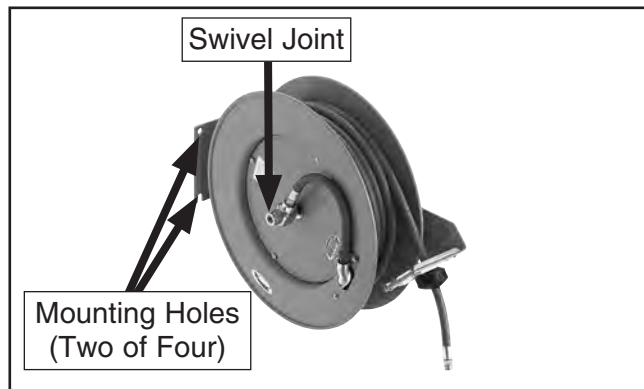

Figure 1. Model H0610/H0611.
The hose reel assembly is shipped pre-assembled, as shown in **Figure 1**.
3. Mark the location of the mounting holes on the reel base (**Figure 1**) in the chosen location, then secure with 1/2" hardware.
4. Apply Teflon pipe tape or thread sealant to the incoming air fitting threads and attach it to the swivel joint (see **Figure 1**).